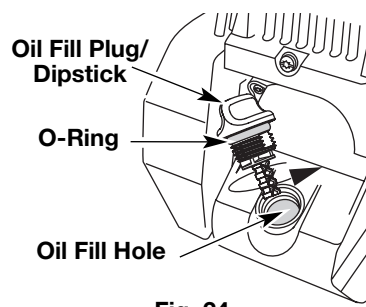

Fig. 24
6. If the level is low, add a small amount of oil to the oil fill hole and recheck (Fig. 24). Repeat this procedure until the oil level reaches the top of the dipstick.
NOTE: Make sure the O-ring is in place on the oil fill plug/dipstick when checking and changing the oil (Fig. 24).